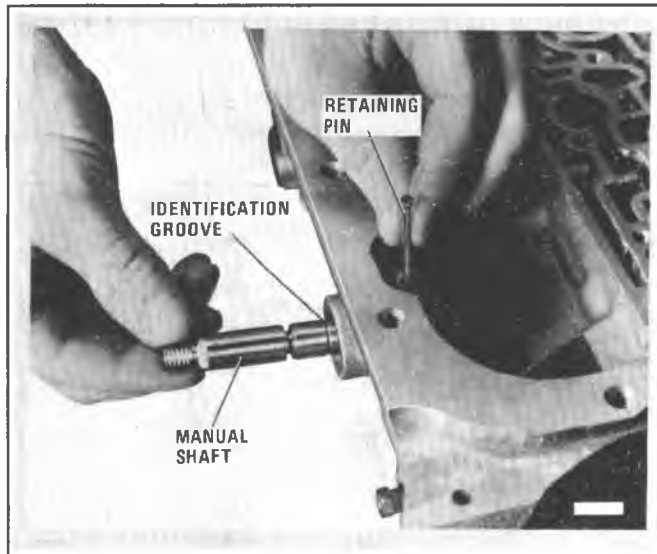

Figure 7A6-87 Installing Manual Shaft Into Case
14. Install manual shaft to case retaining pin, indexing with larger groove on manual shaft (Figure 7A6-87).